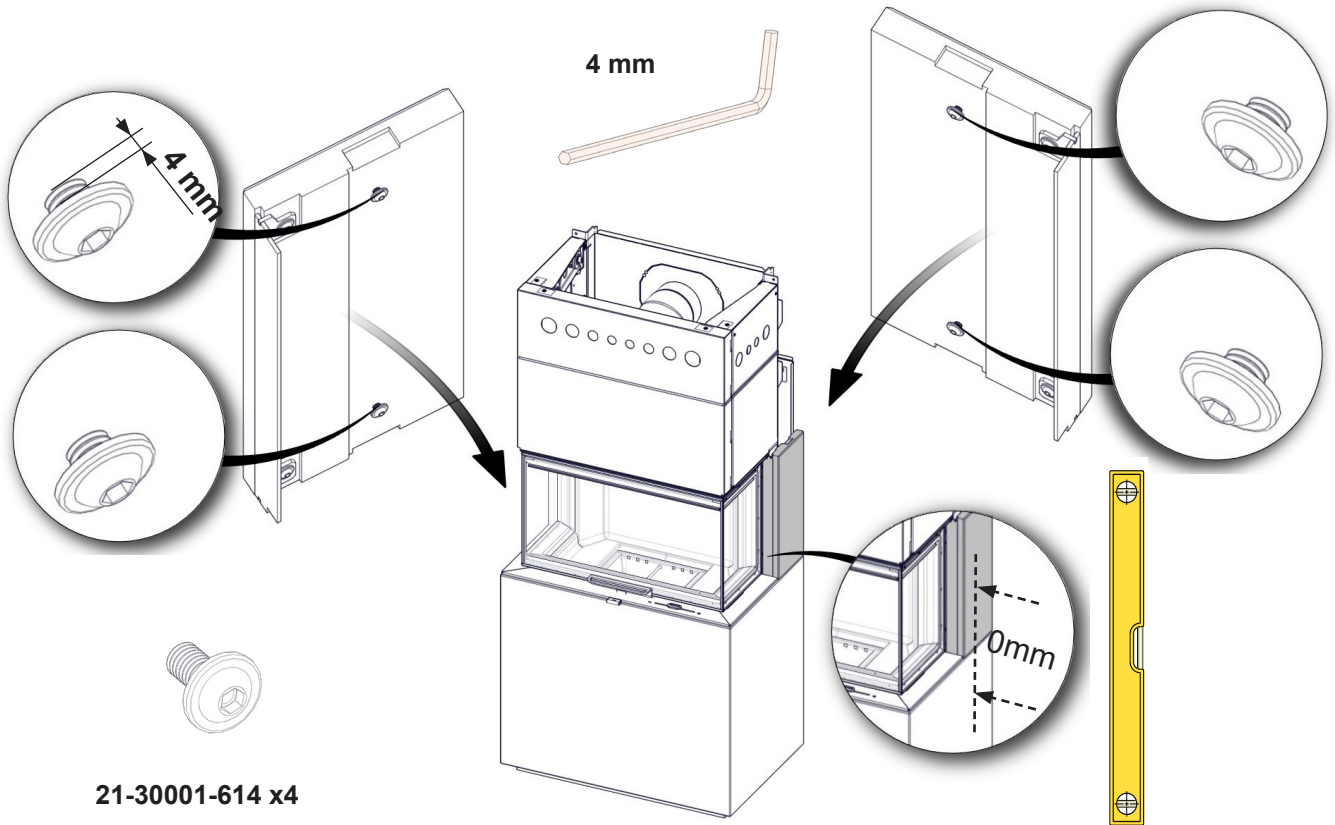

**FIG 14** Monaco II High Base\_Q-34 UL
**FIG 14 a** Monaco II High Base\_Q-34 UL